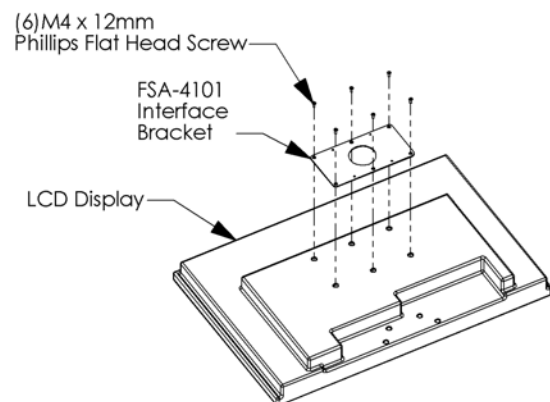

Figure 5. Install 200mm x 100mm Mount Display on Bracket
1. Using (6) M4 x 12mm Phillips Flat head Screws, attach the FSA-4101 Interface Bracket to the LDC display (see Figure 5).